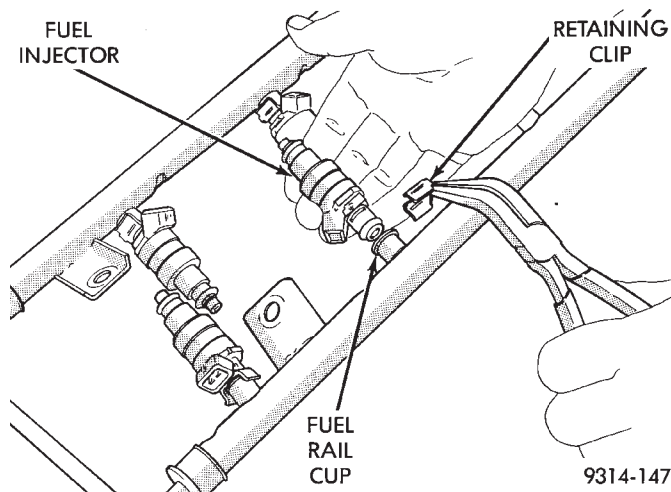

Fig. 18 Fuel Injector Removal/Installation—3.3L Engine
(1) Remove fuel rail. Refer to Fuel Rail—3.3L Engine in this section.
(2) Remove fuel injector retaining clip (Fig. 18).
(3) Pull injector out of cup on fuel rail.